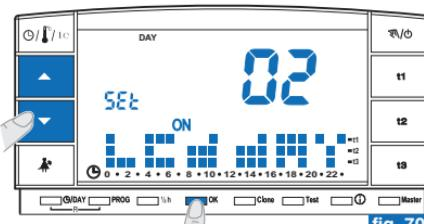
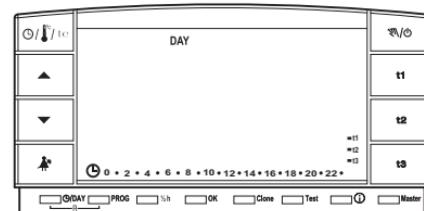
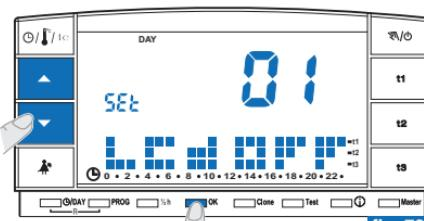

fig. 70
fig. 71
fig. 72
- From the display contrast screen (example in fig. 69) press **▲▼** to view level "02" **LCd dAY** (example in fig. 70).
- Note: it is possible to return to the normal program by waiting out the time out (3 minutes) or else by pressing **①**.*
- Press **OK** to set display shutdown from 0:00 am to 6:00 am (example in fig. 71).
- From the display contrast screen (example in fig. 69) press **▲▼** view level "01" **LCd OFF** (example in fig. 72).
- Press **OK**: after 3 minutes, the display will shut down over the 24 hours of each day (example in fig. 71).